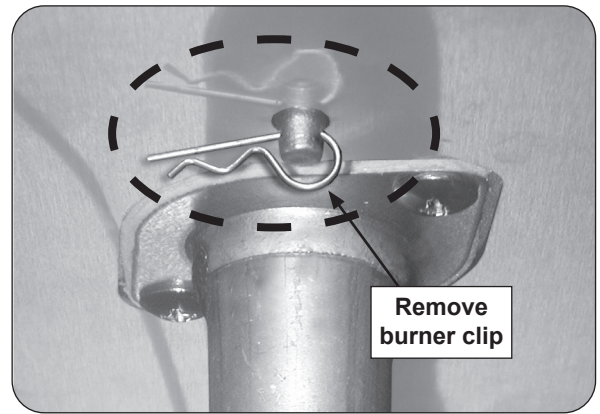

Fig. 40-1 Remove burner clip
3. Reach up under the burner support and remove the burner retaining clip (see Fig. 40-1), located at the rear of the burner pipe.
7. Replace the burner retaining clip (underneath burner). Reference Fig. 40-1.